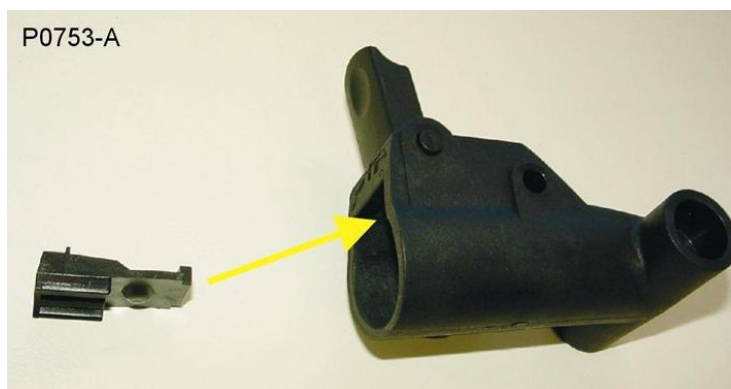

Figure 52: Fitting Lower Pressure Block into Lower Camlock
- Refit the cam lever with a lower camlock pin into the camlock body. Open the lower cam lever. Place the lower pressure block into the lower camlock body. (Figure 52)